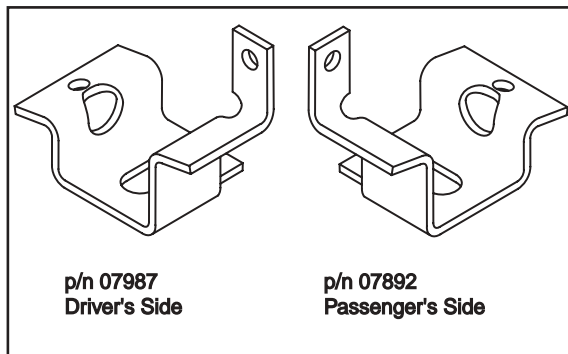

Figure 3
2. The kit mounts behind the axle. Use upper bracket (B) #07987 on the left (driver's side) and upper bracket (C) #07892 on the right (passenger's side) (Figure 3).
Stability translates into safety and should be the priority, meaning the driver may need to sacrifice a perfectly level and comfortable ride. Stability issues include roll control, bounce, dive during braking and sponginess (fig. 3). Tuning out these problems usually requires an increase in pressure.